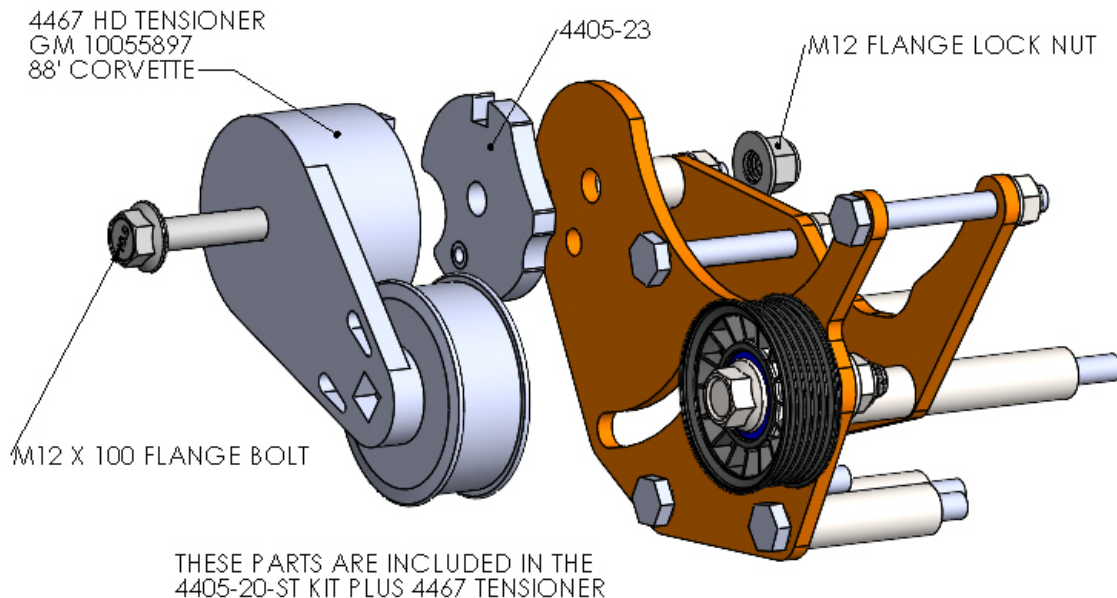

Figure 1
7. If you are using the spring tensioner, install the tensioner to the 4405-21 bracket with the 4405-23 spacer and M12 bolt. The roll pin on the spacer should go thru the hole in the 4405-21 bracket. Refer to figure1 as a guide